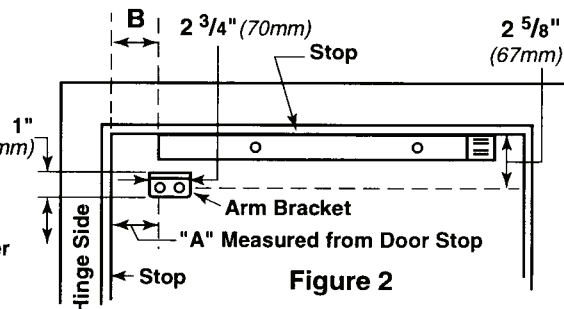

Figure 2
6. Close the door and place unit against bottom of stop (see Fig. 2).